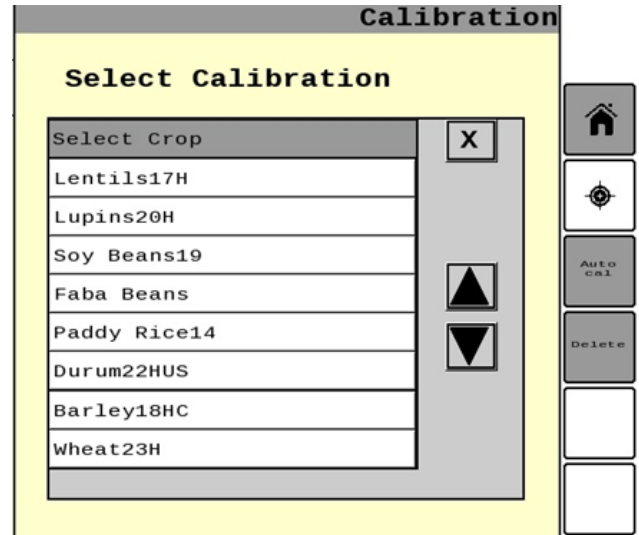

Figure 5.7 List of Crop types.
i. Select the **Calibration** button as shown in figure 5.7.